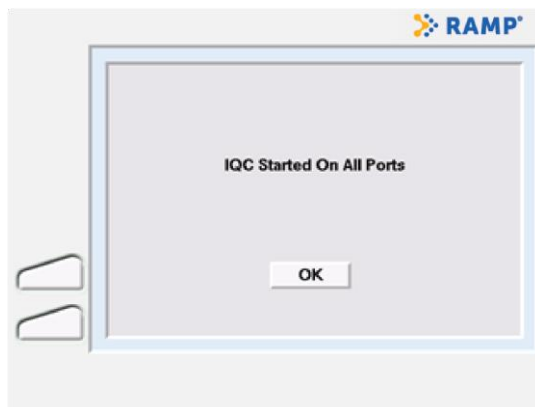

Figure 14 IQC Status Screen
- 1 From the **Main Menu** screen (Figure 6), select **Run IQC**. The **IQC Status** screen is displayed (Figure 14).